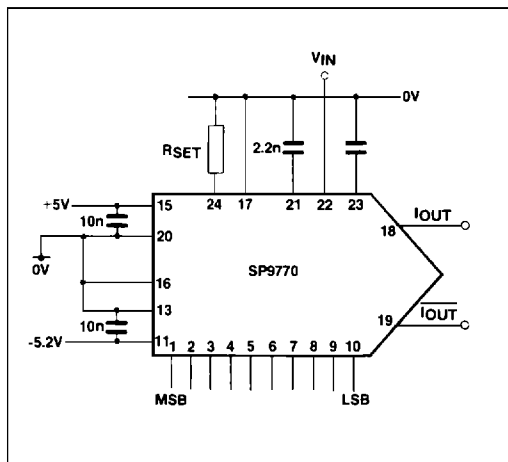

Fig.5 Multiplying mode operation (voltage mode)
Multiplying mode - voltage (see Fig.5)
**Voltage multiplying.** A circuit for using the DAC in voltage multiplying mode is shown in Fig.5. The transfer function is approximately:  $I_{OUT} \text{ (Full Scale)} = 4 \times V_{IN}/R_{SET}$ . While this mode offers the best linearity of operation, the frequency response limitations outlined in Note 3 mean that the maximum useable bandwidth is limited to approximately 35kHz